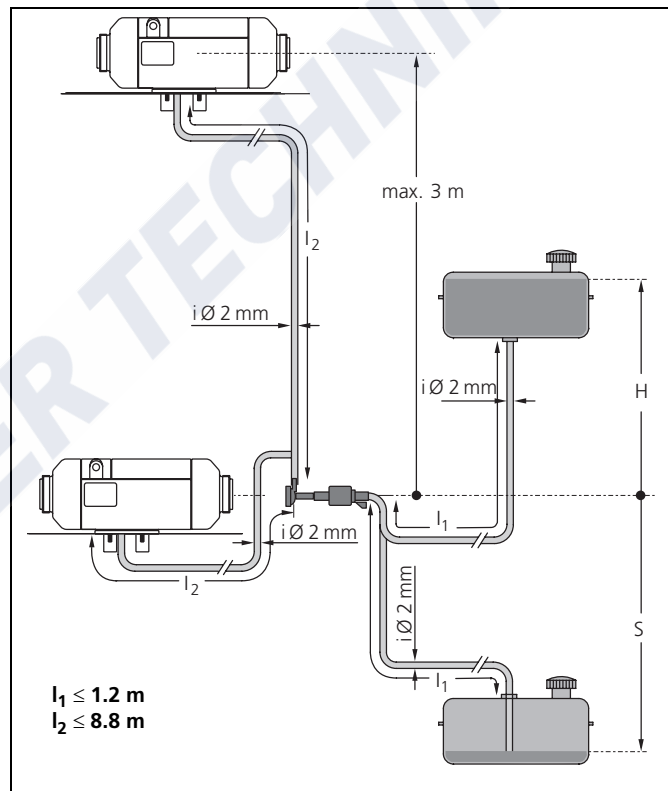

Fig. 15: Permissible pipe lengths and lifting heights
The fuel is taken from the boat fuel tank or from a separate fuel tank. The values for the maximum pressure at the fuel extraction point are shown in Figure 15.
- Fit the metering pump near the tank. For the distance from the fuel standpipe, see Figure 15.